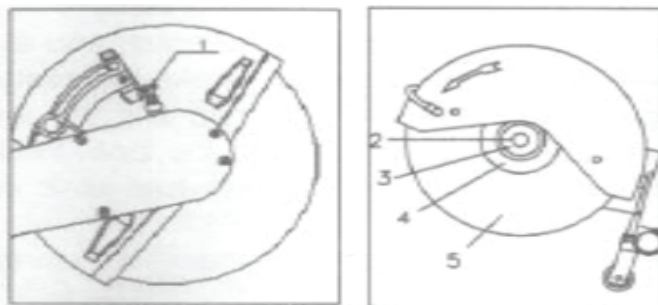

Fig 5
II. Choosing the proper disc: a. The disc diameter may be 300 mm (12 inches) or 350 mm (14 inches). The spindle inner diameter has two 25.4 mm sizes. The disc thickness must be between 2 and 4 mm. b. Disc types: For your reference, choose composite abrasive discs to cut asphalt, concrete, stone, brick, steel and plastic. Choose diamond abrasive discs to cut asphalt, concrete, stone, hard stone, brick, etc. Remark: Each diamond disc features a marking indicating the direction of rotation. Upon mounting the disc, make sure it corresponds to the direction of rotation of the spindle. c. Installing/replacing the disc (ref. Fig. 5) Mounting the disc (1), use the mixed wrench to rotate the Disc (5) back and forth until the spindle lock actuates the disc spindle. Use the mixed wrench to unfasten and remove the Hex Screw (2). Remove the metal Washer (3), Flange (4) from the disc spindle, along with the disc to be replaced. Reinstall the disc. Mount the Flange (4) and the metal Washer (3). Tighten the Hex Screw (2) with the help of a mixed wrench at a torque of 25 N.m. Finally, remove the spindle Lock, so that the disc may rotate freely.